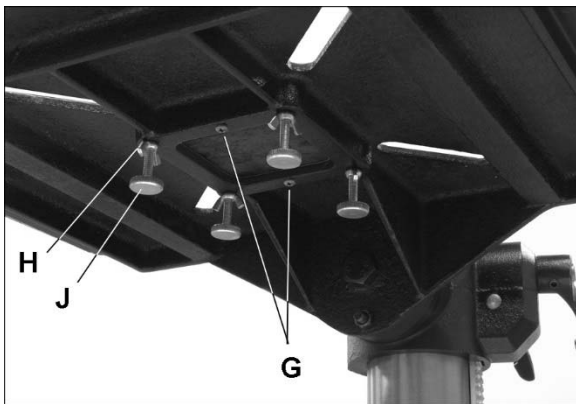

Figure 16
Refer to Figure 16.
1. Remove the two screws beneath table insert (G, Figure 16).
2. Loosen any of the wing nuts (H) and rotate the bolts (J) as needed until the insert is level with the table surface.